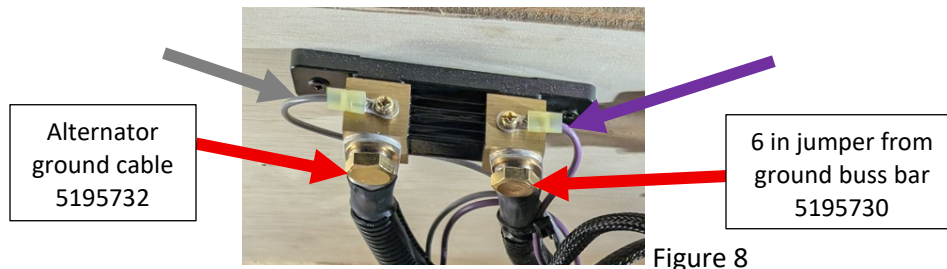

Figure 8
- Connect the purple and grey wire to the shunt with ring connector as shown in figure 8.